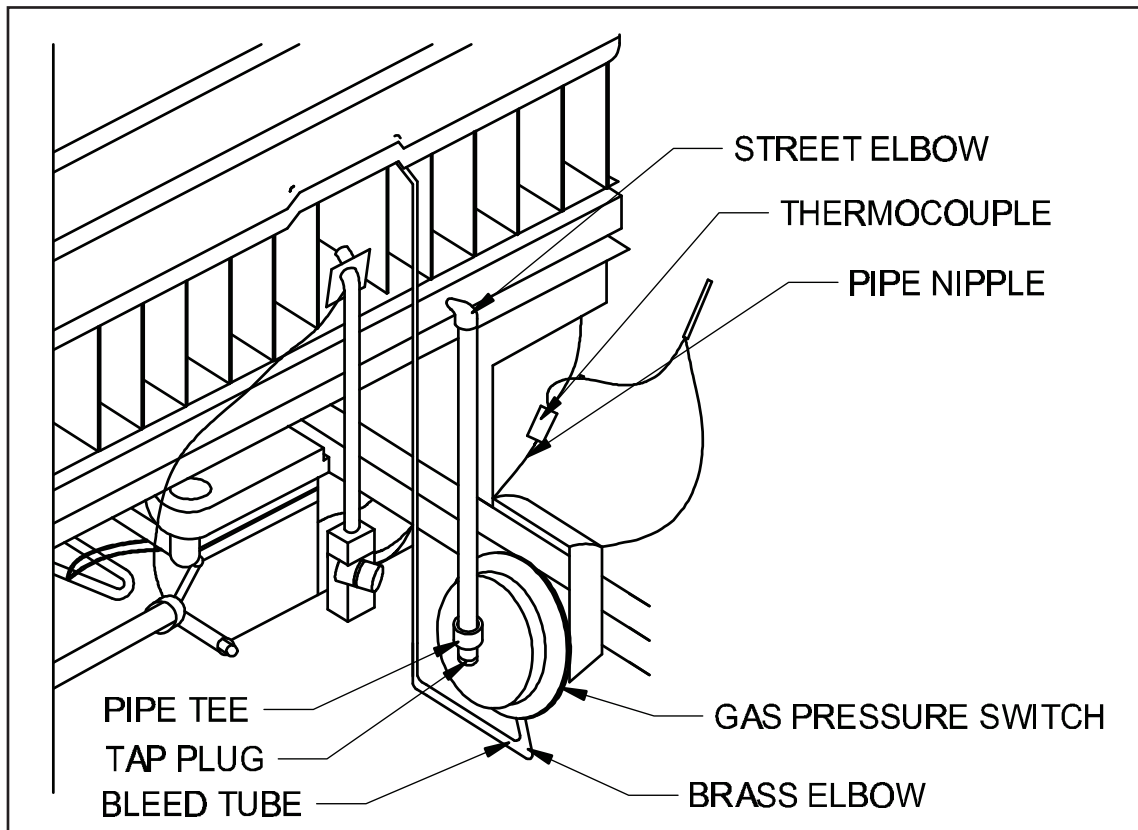

Figure 4
2. Install $\frac{1}{8}$ " NPT Street elbow (if required for mounting the gas pressure switch vertically) in place of the pressure tap plug. Then install the 3" x $\frac{1}{8}$ " NPT nipple, pipe tee and pressure tap plug. (See Figure 4)